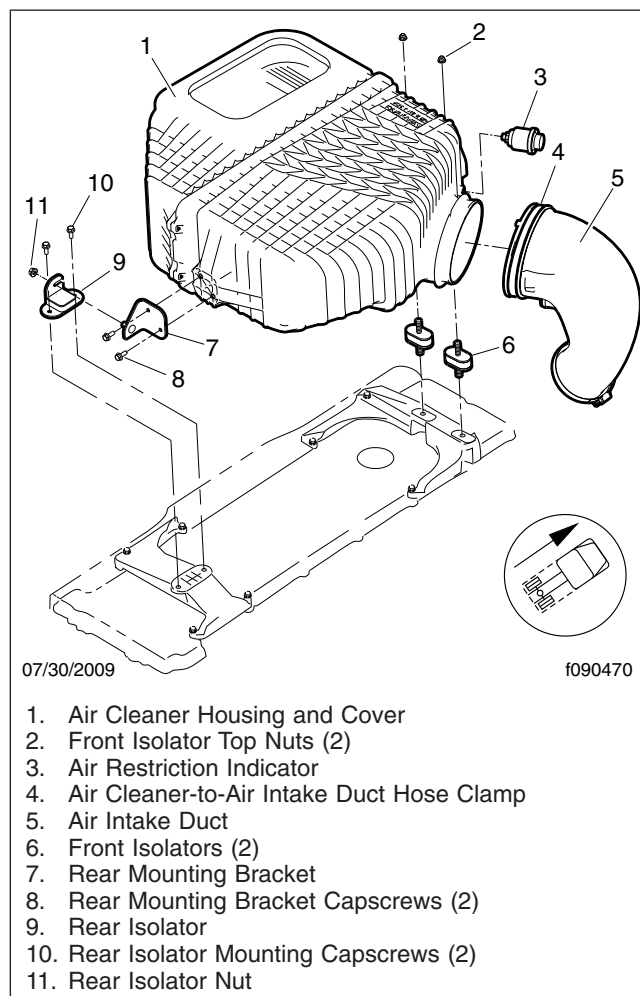
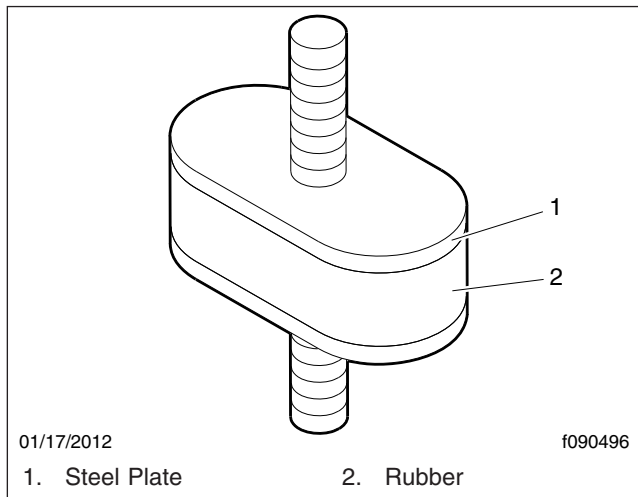

Fig. 5, Air Cleaner Assembly
Fig. 6, Mounting Isolator
5. Inspect the forward and rear mounting isolators for damage. See Fig. 5. Ensure the bonds between the rubber and the steel plates are completely intact. See Fig. 6.